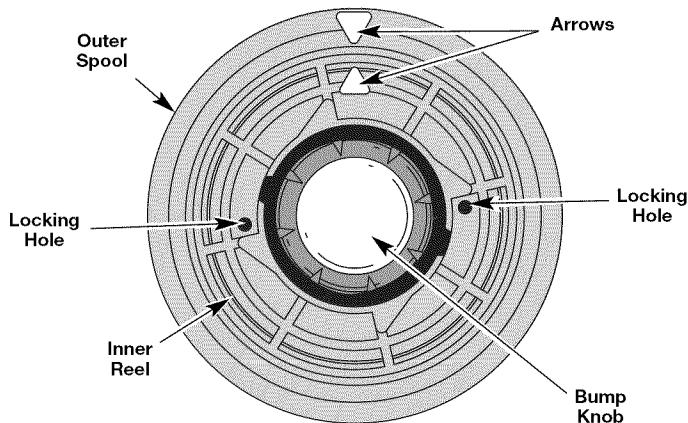

Fig. 11
2. Hold the outer spool and turn the inner reel counterclockwise to line up the arrows on the outer spool and inner reel (Fig. 11).
3. Detach old line ends from locking holes (Fig. 11) and pull old line out through reel eyelets (Fig. 12).